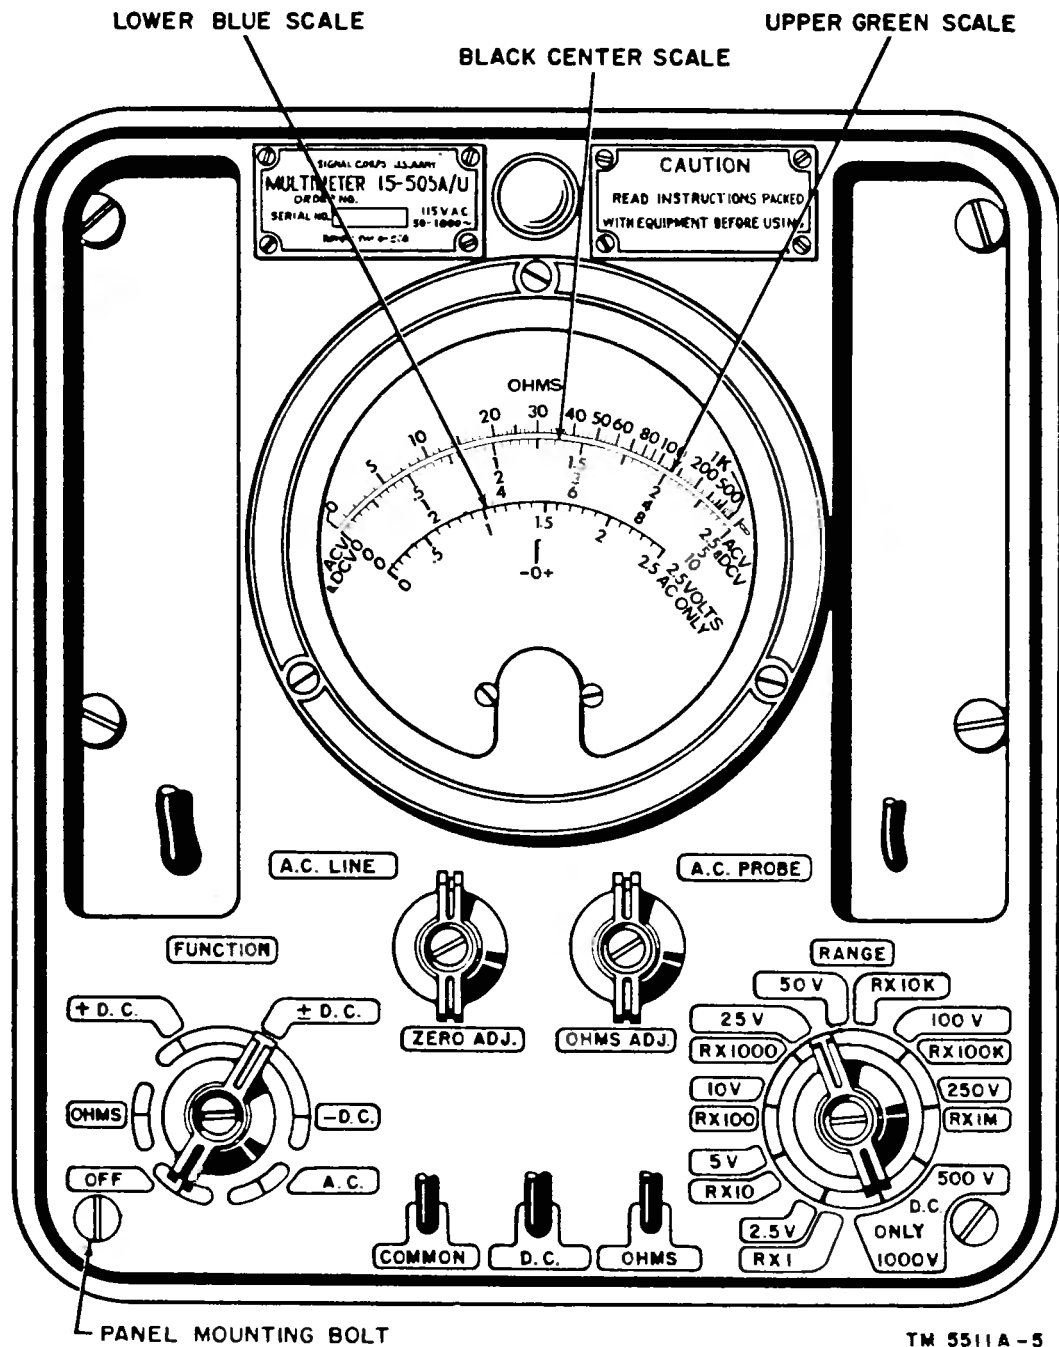

Figure 5. Multimeter, front panel.
13. Controls and Their Uses (fig. 5)
- (2) Turn the FUNCTION switch to the OFF position (fig. 5).
- (3) Check the voltage and the frequency of the ac power source to which the AC LINE cord will be connected. The voltage must be between 98 and 132 volts, single phase; the frequency must be between 50 and 1,000 cps. If the voltage and frequency of the power source are correct, remove all leads from both compartments and connect the AC LINE cord to the ac power source.
- (4) Turn the FUNCTION switch clockwise to any position. The pilot light on the front panel above the meter should glow.
- (5) Allow the multimeter to warm up for at least 10 minutes. While the multimeter is warming up, the meter pointer may drift rapidly. This is normal.
a. Reading Dc Voltages. Read positive or negative dc voltages on the black center scale of the meter (fig. 5). For maximum accuracy in dc voltage measurements, use a setting of the RANGE switch that will produce a deflection as close to full scale as possible.
- (1) Perform the starting operations outlined in paragraph 14.
- (2) Turn the FUNCTION switch to the $+dc$ position for making plus dc or rf measurements. The details of rf measurement are treated in paragraph 18. Turn the FUNCTION switch to the $-dc$ position for making $-dc$ measurements. After the multimeter has warmed up, the meter pointer will probably be near, but not at, 0 scale reading.
- (3) Turn the RANGE switch (fig. 5) to the 2.5 V-RX1 position.
- (4) Hold the dc and COMMON probe tips together, and turn the ZERO ADJ. control until the meter pointer indicates exactly 0 volt.
- (2) Turn the FUNCTION switch to the \pm dc position for making + dc or — dc measurements. The meter pointer should be within plus or minus one scale division of midscale.
- (3) Turn RANGE switch (fig. 5) to the 2.5 V–RX1 position.
- (4) Hold the dc and COMMON probe tips together and turn the ZERO ADJ. control until the meter pointer is at exact midscale.
a. Reading Ac Voltages. Read all ac voltages except those in the 0- to 2.5-volt range on the black center scale of the meter (fig. 5). When the RANGE switch is in the 2.5 V–RX1 position, the voltages are read on the lower blue scale of the meter. The most accurate readings are obtained when the meter pointer is within the upper one-third portion of the ac voltage scale.
a. Reading Rf Voltages. Read rf voltages on the black center scale of the meter (fig. 5). The most accurate readings are obtained when the meter pointer is within the upper one-third portion of the dc voltage scale.
- (1) To obtain the mean voltage, add the two readings (*a* and *b* above) and divide the sum by 2. The quotient is the mean voltage value.
- (2) To obtain the peak-to-peak voltage, multiply each reading (*a* and *b* above) by 1.414, and add the products. The sum is the peak-to-peak voltage value.
a. Reading Dc Resistances. Read resistance on the upper green scale of the meter (fig. 5). The most accurate resistance readings are obtained when the meter pointer is in the center portion of the OHMS scale. The resistance reading is determined by multiplying the meter reading by the resistance multiplier value indicated opposite the RANGE switch setting. For example, if the meter reading is 30 and the RANGE switch is at the 50 V-RX10K position, the resistance measured is 30 times 10,000, or 300,000 ohms.
- (2) Turn the FUNCTION switch to the OHMS position. The meter pointer should deflect to, or near, full scale reading (∞).
- (3) Turn the OHMS ADJ. control to set the meter pointer at full scale reading (∞).
- (4) Hold the OHMS and COMMON probe tips together and turn the RANGE switch to the 2.5 V-RX1 position. The meter pointer should indicate approximately zero.
- (5) Set the meter pointer to exact zero reading by turning the ZERO ADJ. control.
- (6) Recheck the ∞ setting by separating the OHMS and COMMON probes. Readjust the meter pointer, if necessary, by turning the OHMS ADJ. control.
- (1) Connect the COMMON probe to the end (nearest to the ground point) of the unknown resistor, and connect the OHMS probe to the other end of the resistor. For example, when measuring the resistance of the plate load resistor of an amplifier tube, connect the COMMON probe to the end nearest B +, and connect the OHMS probe to the end nearest the plate of the tube.
- (2) Turn the RANGE switch clockwise, one position at a time, until the meter pointer is closest to center scale.
- (3) Read the meter.
- a. Turn the RANGE switch (fig. 5) to the 1,000 V-DC ONLY position.